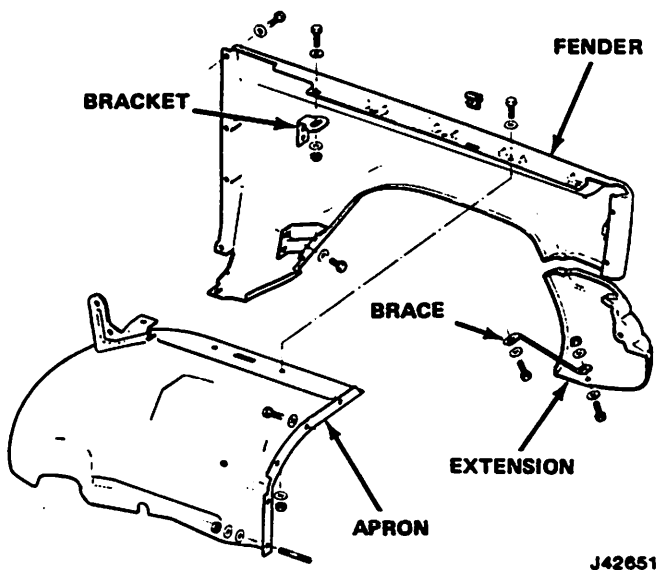

Fig. 3F-13 Front Fender—Cherokee-Wagoneer-Truck Models
- (1) Remove front bumper.
- (2) Remove headlamp to gain access through opening.
- (3) Reach through headlamp opening and remove bolts and washers attaching fender to grille face panel.
- (4) Remove side marker lamp reflector lens and disconnect lamp socket assembly from lens.
- (5) Remove bolts and washers attaching fender to grille face panel.
- (6) Disconnect brace at fender (fig. 3F-13).